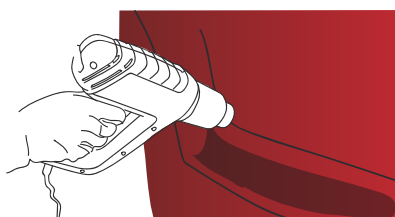

Figure 12
- ▶ Once this step is completed, reheat all the hollow parts that have undergone heavy deformation between 80 °C and 90 °C (176 °F and 194 °F) to thermoform the product definitively. (FIG. 12)